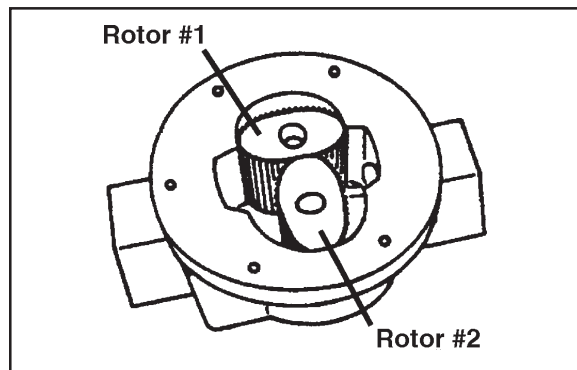

Figure 4-1 Rotor Positions
1. Place the rotors (Item 3) into the meter body. The rotors to be at 90° to each other (As per Figure 4-1).
NOTE: The rotor with magnets must be placed in the body on the same side as the groove on the body (Refer to Figure 4-1).